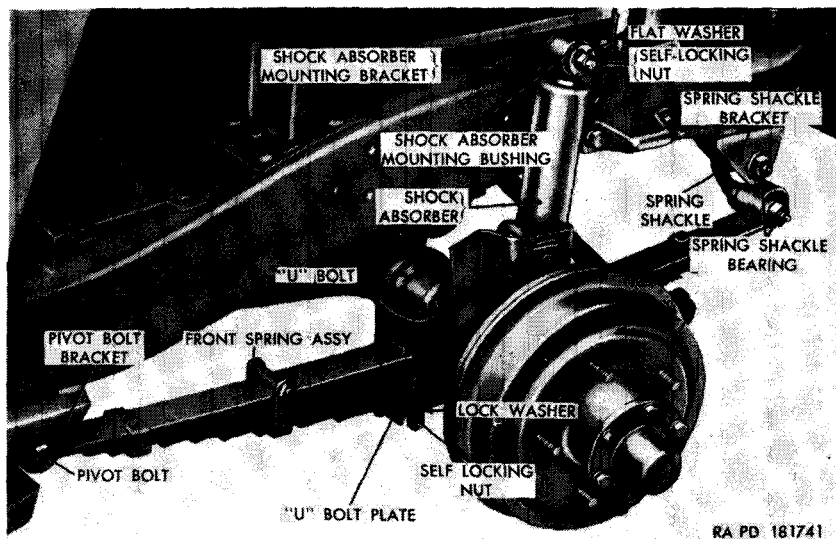
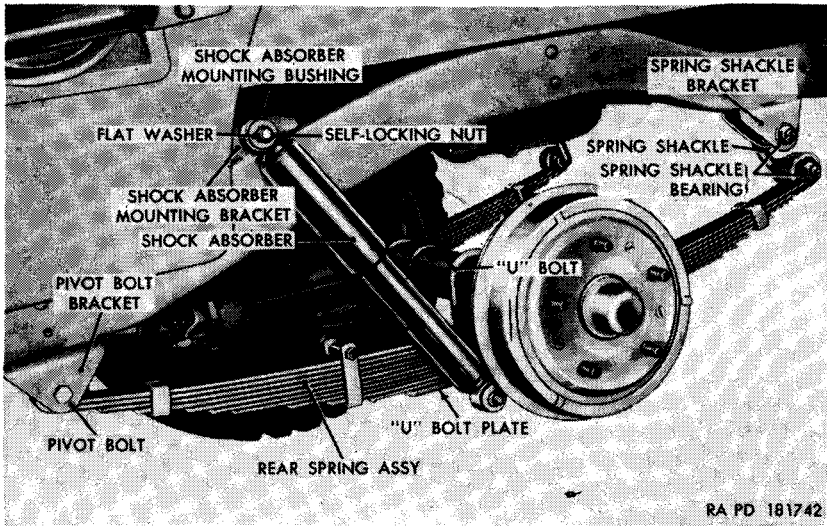
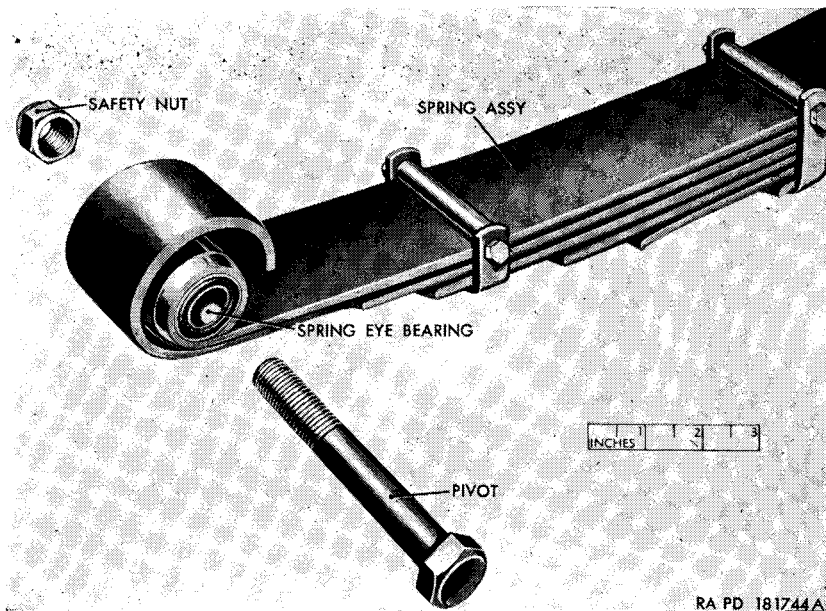

Figure 119. Front spring installed—right side shown.
Figure 120. Rear spring installed—left side shown.
Figure 122. Pivot bolt and spring.
a. Description. (figs. 119 and 120).
- (1) *Springs.* The semielliptic front and rear springs are mounted lengthwise in the vehicle. The front springs are secured at the front of the frame by a spring shackle and at the rear by a pivot bolt. The rear springs are secured at the front of the frame by a pivot bolt and at the rear by a spring shackle.
- (2) *Shock absorbers.* The shock absorbers are two-way control, direct acting hydraulic cylinder units. The rear shock absorbers are secured at the top end by a bracket welded to the frame and at the bottom end to the spring by a U-bolt plate. The front shock absorbers are secured at the top end by a bracket welded to the frame and at the bottom by a spring and shock absorber mounting seat. The shock absorbers are nonadjustable and nonrefillable.
(figs. 119 and 120)
- (1) Jack up vehicle high enough to take load off springs and support vehicle with safety stands or suitable blocking.
- (2) Unscrew the safety nut from the pivot bolt and withdraw bolt from spring eye bearing (fig. 122) and pivot bolt bracket (figs. 119 and 120).
- (1) Position the spring assembly at the pivot bolt bracket (fig. 119 or 120). Aline the hole in spring eye bearing (fig. 122) with the hole in the pivot bolt bracket and insert the pivot bolt through the bracket and spring eye bearing from the outside. Secure the pivot bolt in position with a $\frac{3}{8}$ -inch safety nut (fig. 120).
- (2) Remove the safety stands or blocking and lower vehicle to ground.
- (1) Place a jack under the axle housing and raise vehicle until both wheels clear the ground. Place safety stands or suitable blocking under bumper to support weight of vehicle. Adjust the height of the jack under the axle housing to relieve the tension on the spring.
- (2) Remove spring shackle (par. 250).
- (3) Remove pivot bolt (par. 251).
- (4) Remove the self-locking nut and flat washer securing the shock absorber to the U-bolt plate (fig. 120), or spring and shock absorber mounting seat (fig. 119), and pull shock absorber free from plate or seat.
- (5) Remove the four U-bolt nuts securing the U-bolts and U-bolt plate, or the spring and shock absorber mounting seat. Remove the U-bolt, U-bolt plate, or spring and shock absorber mounting seat and spring.
- (1) Place spring in approximate position under vehicle, raise pivot bolt end of spring, and install pivot bolt (par. 251*b*(1)).
- (2) Raise spring shackle end of spring into position and install spring shackle (par. 250*b*(1) through (6)).
- (3) Slowly lower axle onto spring, making certain that spring center bolt enters the recess in spring saddle on the axle. Install the U-bolts over the axle and through the U-bolt plate (fig. 120), or spring and shock absorber mounting seat (fig. 119), and install the four $\frac{7}{16}$ -inch U-bolt nuts.
- (4) Position the lower or small end of the shock absorber on the stud of the U-bolt plate, or spring and shock absorber mounting seat, and secure in position with a $\frac{1}{2}$ -inch flat washer and $\frac{7}{16}$ -inch self-locking nut.
- (5) Remove the safety stands or blocking and lower vehicle to ground.
- (6) Rock vehicle back and forth to flex springs and tighten safety nut on pivot bolt to torque of 27 to 30 pound-feet.
- (7) Lubricate spring shackles (par. 66).
- (8) Road-test vehicle and check for tight spring shackles. If too tight, remove and again install spring shackle bearings (par. 250).